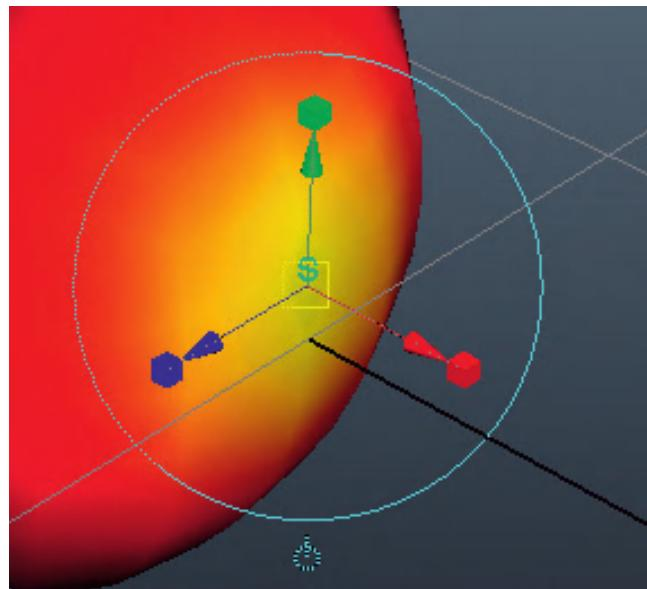

FIG. 2.19 The Soft Modification handles manipulator handles.
Step 27: Click anywhere on the sphere. It will likely turn completely yellow and a manipulator handle not quite like anything we've seen so far will appear (Fig. 2.19).